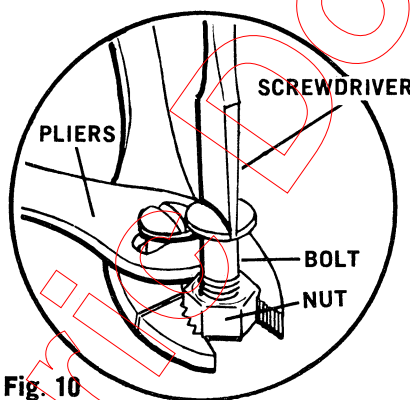

Fig. 10
- Use pliers to hold a nut while you turn a bolt with a screwdriver. (Fig. 10)